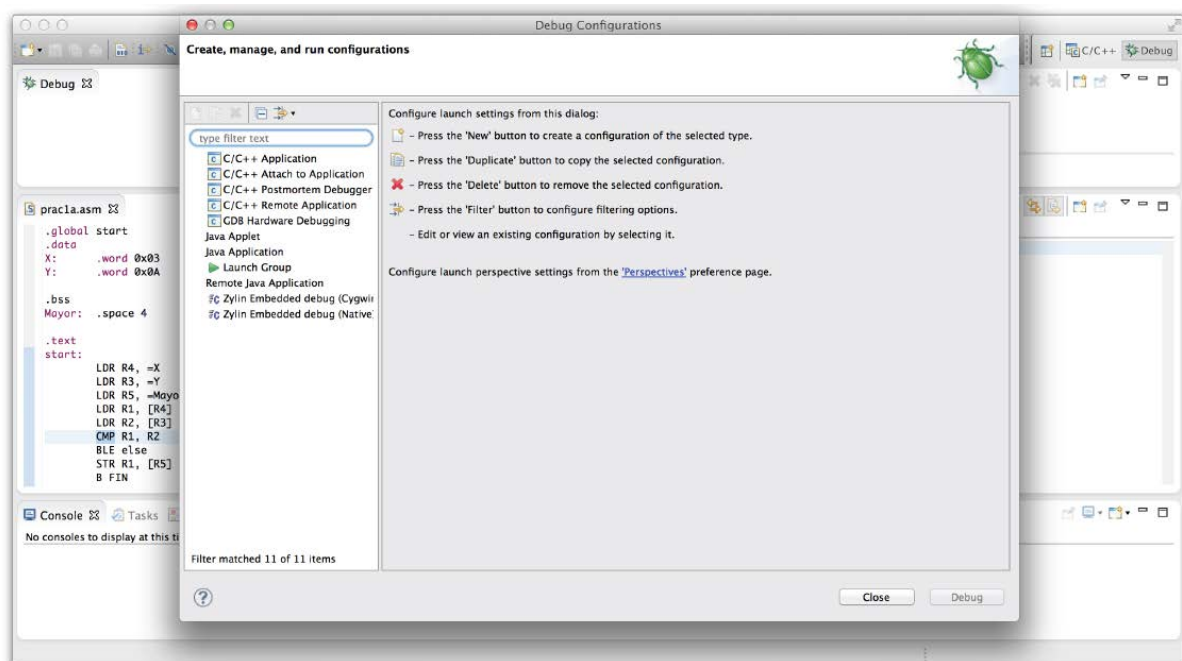
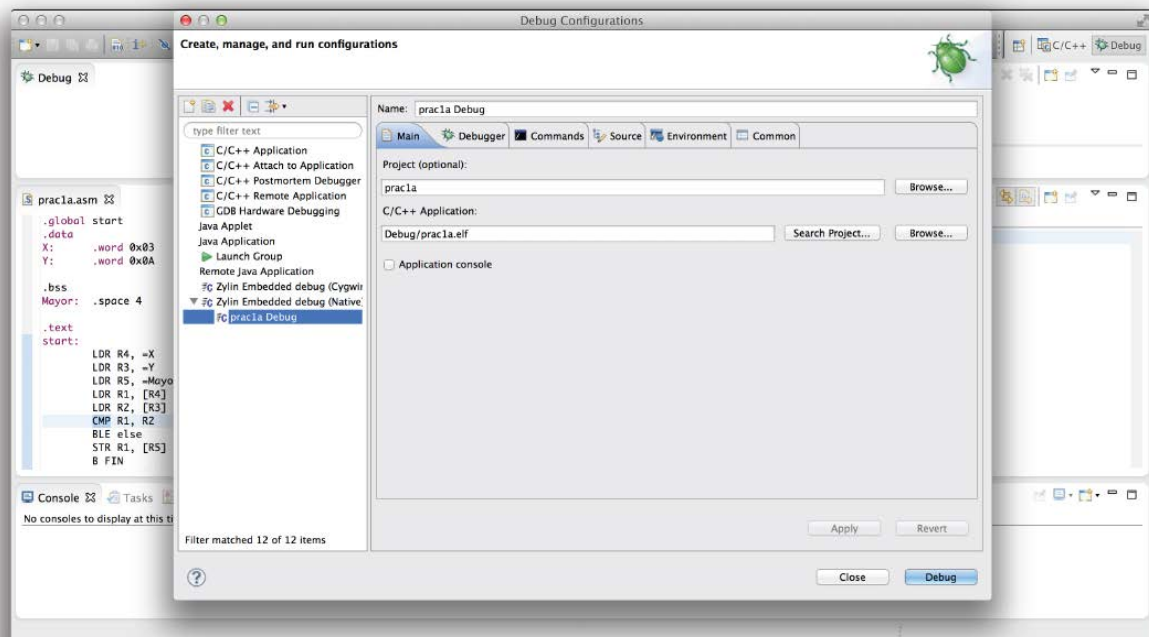

Figure 1.13 Debugging configurations window.
Figure 1.14 Creating a new Zylín native configuration for the project
2. Create a debug configuration for the project using the Zylin plugin. This is done by first selecting Run→Debug configurations ... which will open the window shown in Figure 1.13. In the left panel, select Zylin Embedded debug (Native) and click the button in the upper left corner of the panel () to create the configuration. After that, we should have a window like that shown in Figure 1.14. Now we must correctly fill the following configuration tabs: